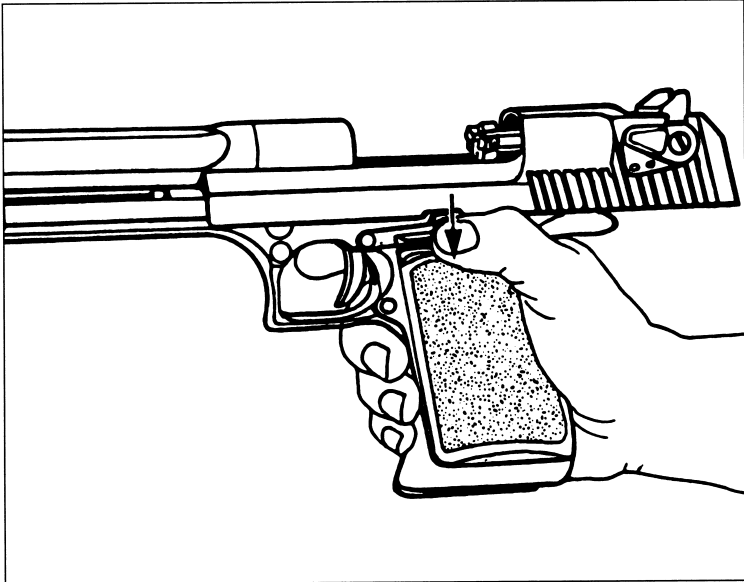

fig. 10
4. Release the slide by depressing the slide catch or by pulling the slide slightly to the rear and releasing it (fig. 10).